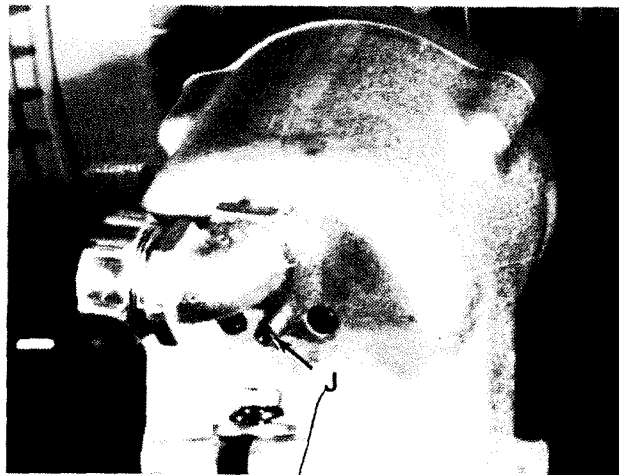

Figure 3.12 - Spindle Brake Adjusting Screw
8. Turn adjusting screw "J", Figure 3.12, clockwise or counterclockwise until there is a .010 to .013 inch [.25 to .33 mm] clearance between the cork insert and the brake drum.
6. Turn adjusting screw "J", Figure 3.12, counterclockwise until the cork housing is free from the brake.